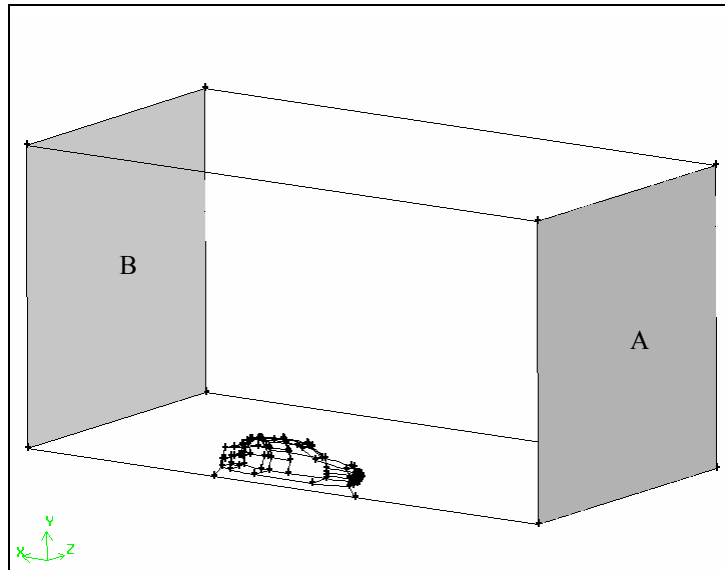

Figure 5-29: Pressure inlet (A) and pressure outlet (B) for the sedan geometry
- iii. *Shift*-left-click the face on the brick in front of the car in the graphics window (marked A in Figure 5-29) and click **Apply** to accept the selection.
- ii. Select the face on the brick behind the car in the graphics window (marked B in Figure 5-29) and click **Apply** to accept the selection.